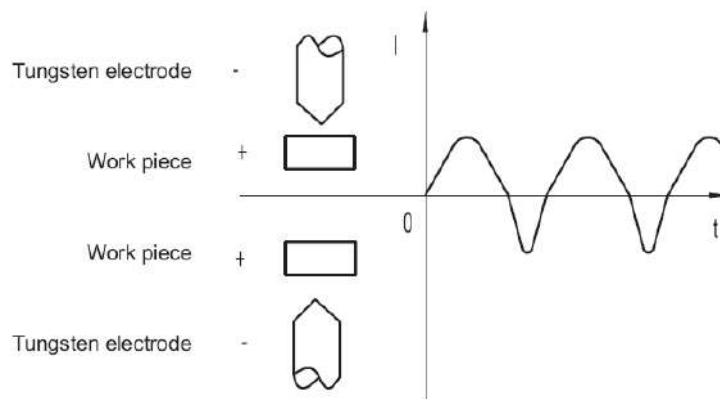

Fig. 5-3-13: Triangle wave
**Triangle wave:** Minimized area (heat) under the curve shape with high peaks. Lower amperages can minimize heat input to the weld High peaks more forceful for anodized applications. (Fig. 5-3-13)